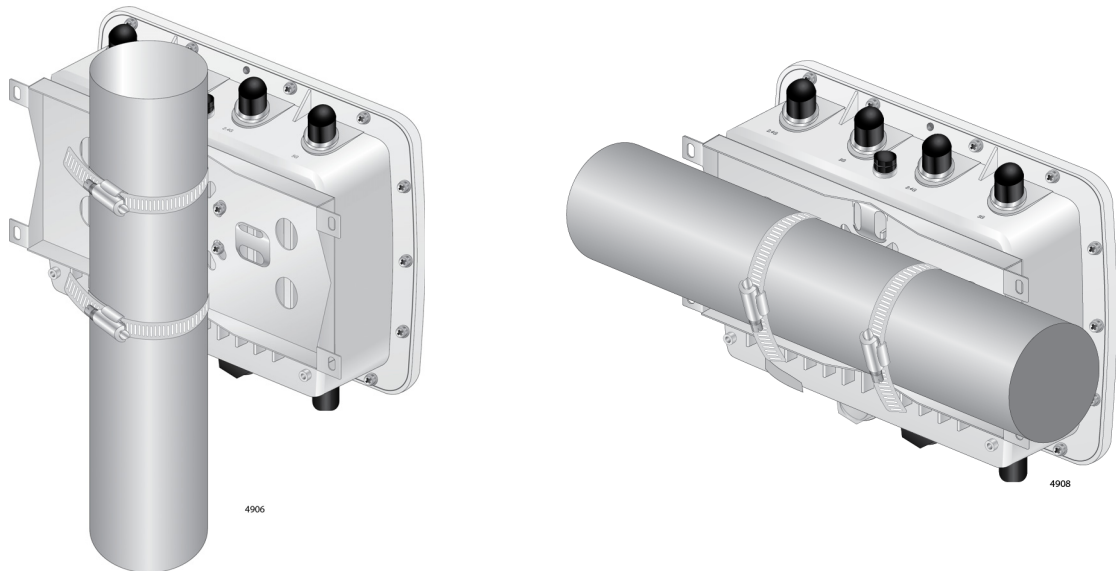

Figure 27. Pole Orientations for the Access Point
You can install the access point on a pole that stands vertically or runs horizontally as long as the access point's front panel faces down. See Figure 27.
Figure 27 show the pole orientations using the pole straps and mounting base as examples. You can also install the access point on a vertical or horizontal pole using the U-bolts and pole-mount bracket.
- ❑ The access point can be installed on a pole that stands vertically or runs horizontally using either the U-bolts and pole-mount bracket or the pole straps and mounting base. See Figure 27 on page 57.